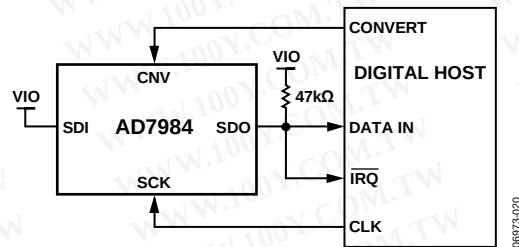
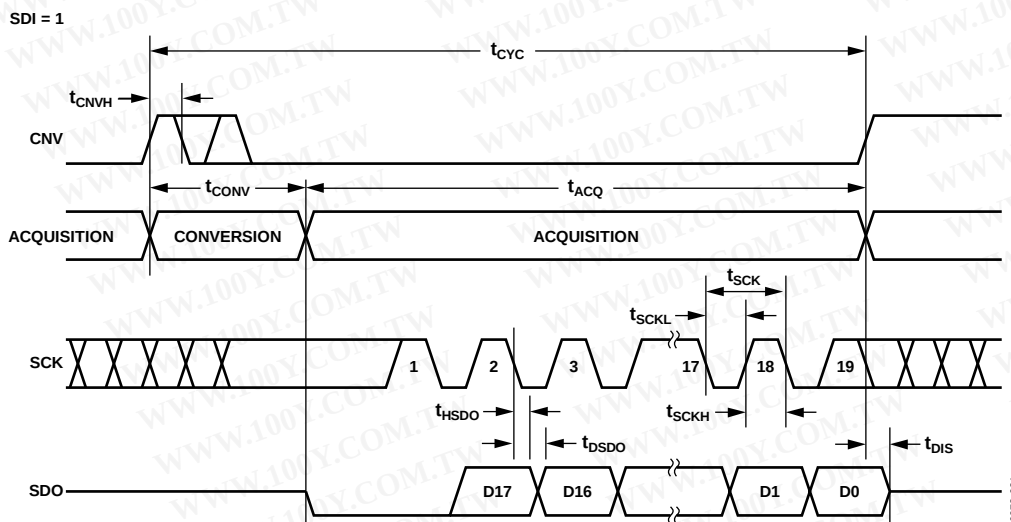
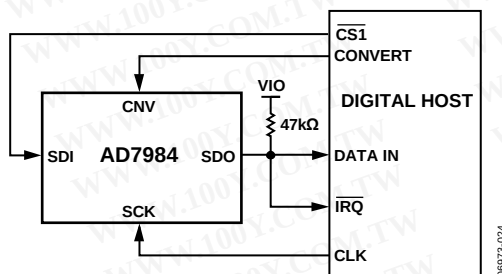
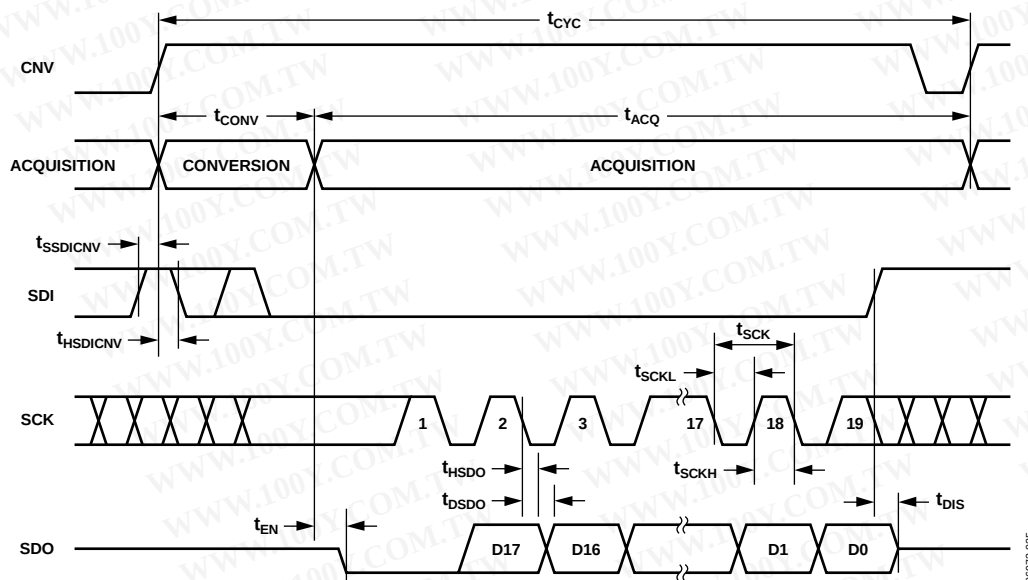

Figure 30. $\overline{\text{CS}}$ Mode, 3-Wire with Busy Indicator Connection Diagram (SDI High)
Figure 31. $\overline{\text{CS}}$ Mode, 3-Wire with Busy Indicator Serial Interface Timing (SDI High)
Figure 34. CS Mode, 4-Wire with Busy Indicator Connection Diagram
Figure 35. CS Mode, 4-Wire with Busy Indicator Serial Interface Timing
- In $\overline{CS}$ mode if CNV or SDI is low when the ADC conversion ends (see Figure 31 and Figure 35).
The connection diagram is shown in Figure 30, and the corresponding timing is given in Figure 31.
The connection diagram is shown in Figure 34, and the corresponding timing is given in Figure 35.